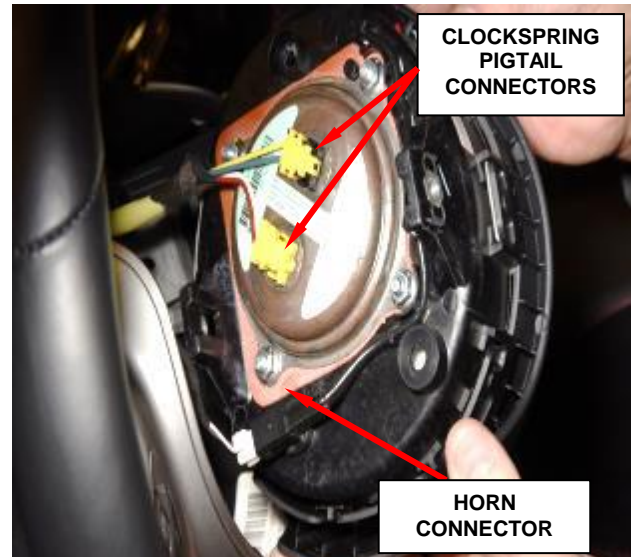

Figure 2 – Electrical Connectors
5. Disconnect the steering wheel wire harness connector from the horn switch connector (4) on the back of the airbag housing (Figure 2).
6. The clockspring DAB pigtail wire connector insulators are secured by integral latches to the airbag inflator connector receptacles, which are located on the back of the airbag housing. Pinch both latches firmly, then pull the insulators straight out from the airbag inflator to disconnect them from the connector receptacles (Figures 2 and 3).
34. Place the **NEW** driver airbag near clockspring wiring and connect horn switch wiring connector (Figure 2).
35. Connect squib wires (match colors of connector ends) to driver airbag. Make airbag connection by pressing straight in on connectors. The connector must be fully seated. Feel for positive snap to assure positive connection (Figures 2 and 3).